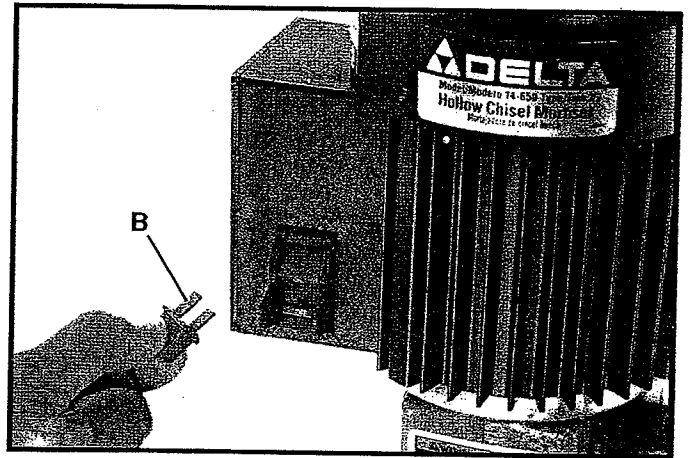

Fig. 27
We suggest that when the mortiser is not in use, the switch be locked in the "OFF" position. This can be done by grasping the switch toggle (B) Fig. 27, and pulling it out of the switch, as shown. With the switch toggle (B) removed, the switch will not operate. However, should the switch toggle be removed while the machine is running, the switch can be turned "OFF" once, but cannot be restarted without inserting the switch toggle (B).